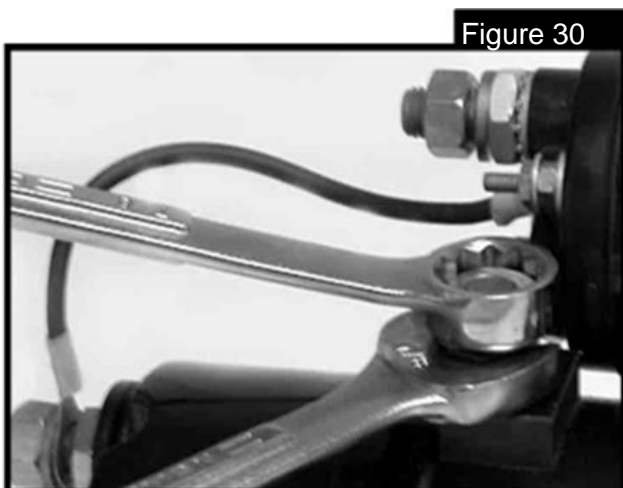

Figure 30
8. Place the jumper strap over the #3 terminal and the field stud, and torque the jam nut on the #3 terminal to 21-29 lbf-ft and the one on the field stud to 18-22 lbf-ft. CAUTION: Use an open wrench to support the bottom nut while tightening the nut holding the jumper to the field coil stud. See Figure 30.